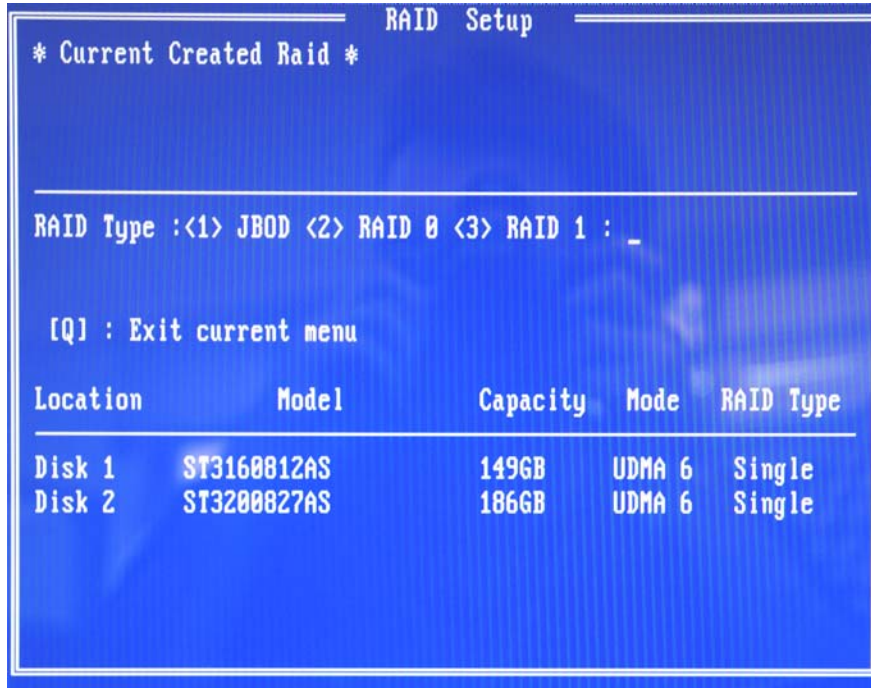

Figure E-6: Create RAID
- Step 5:** You will then be prompted to select the RAID configuration type you wish to install. JBOD, RAID0 or RAID1. Select the RAID configuration you want to use (Figure E-6).